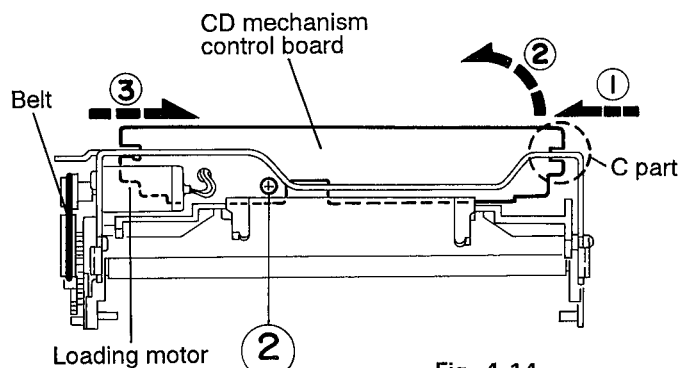

Fig. 4-14
8. Remove the one screw ② retaining the CD mechanism control P. C. board (See Fig. 4-14).
9. After disengaging the engagement between the notch section ㉔ and frame, remove the CD mechanism control P. C. board successively from ① through to ③ in the arrow direction as shown in Fig. 4-14.
1. Remove the belt from the loading motor (See Figs. 4-14 and 4-15).